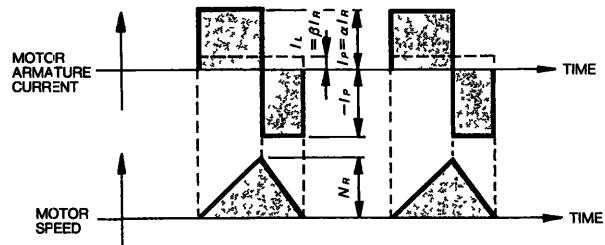

Fig 4.4 Timing Chart of Motor Armature Current and Speed
- When the motor remains at standstill between cycles of acceleration and deceleration without continuous rated speed running (Fig. 4.4)
The timing chart of the motor armature current and speed is as shown in Fig. 4.4. The allowable frequency of operation "n" can be calculated as follows